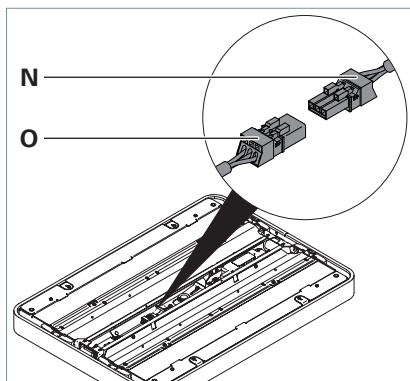

Fig. 11: Connecting the light head, Part 2.
- Connect the socket **N** to the plug **O** at the light head, see Fig. 11.